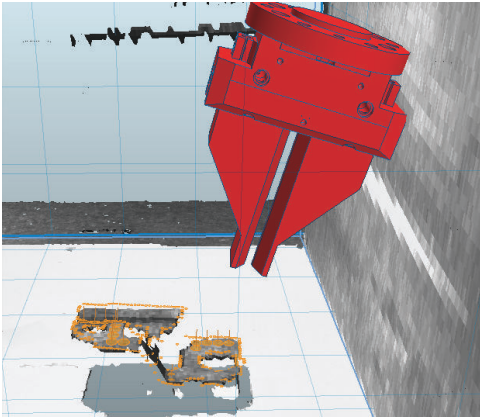

Figure 86: Collision with bin wall, 95 mm from pick pose
- **Points** lists the number of collision points for each pick pose. If no collision was detected, the **Points** value is set to zero. If a collision with the bin was detected, the **Points** value is set to 'bin' (see figure 86, page 94).
- If there was no collision at the pick pose, the gripper's path to the pick pose is animated. If there is a collision along the path, the gripper model turns red and stops, see figure 86, page 94.